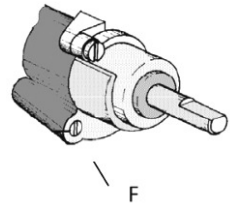

Fig. 3
e) Flame reduction adjustment (fig. 3)
- When switching **from LPG to the natural gas** the fine adjustment screw **F** (fig. 3) should be turned counterclockwise with use of small screwdriver until obtaining the required flame power.
- When switching **from the natural gas to LPG** the fine adjustment screw **F** (fig. 3) should be turned clockwise with use of small screwdriver until obtaining the required flame power.